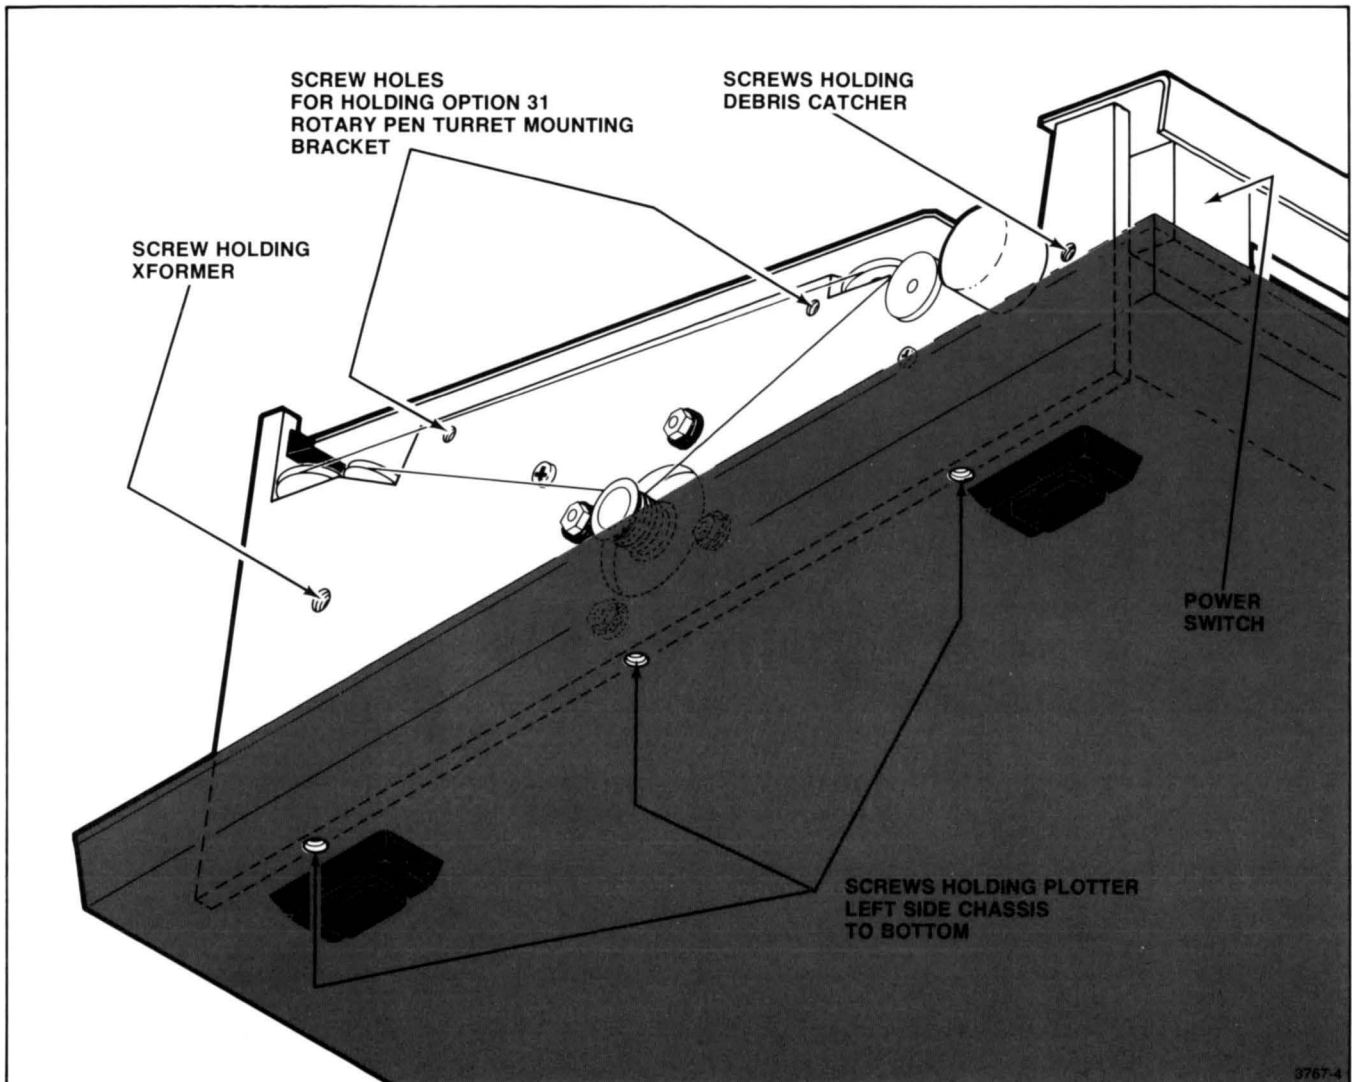

Figure J-5. Option 31 Mounting Screw Locations.
1. **Find** the three screws on the underside of the plotter that hold the plotter's left side chassis to its base. Replace them, one at a time, with 212-0008-00 screws (see Figure J-5). However, leave the screws loose — the screw heads should protrude about 1/4" (6 mm).
2. **Remove** the front screw that holds the debris catcher to the plotter's left side chassis (see Figure J-5). This screw is located at the right of the pen actuating solenoid (viewing the left side of the chassis) and near the POWER switch. Do not discard this screw as it will be used later.
3. **Remove** the screw and washer that holds the top rear portion of the plotter's main transformer to the plotter's left side chassis (see Figure J-5). Do not discard this screw as it will be used later.
6. **Install** two 212-0023-00 screws to hold the rotary pen turret to the plotter's left side chassis (see Figure J-5). Install these screws just below the upper X-axis drive cable and on each side of the rotary pen turret. Apply upward pressure on the rotary pen turret mounting bracket as you tighten the screws.